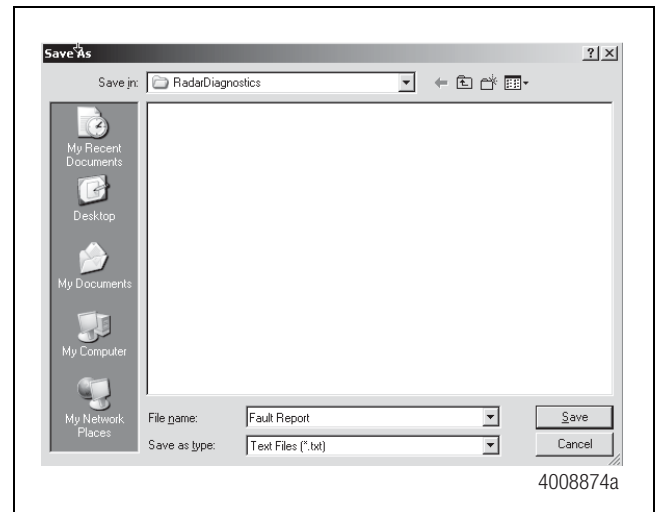
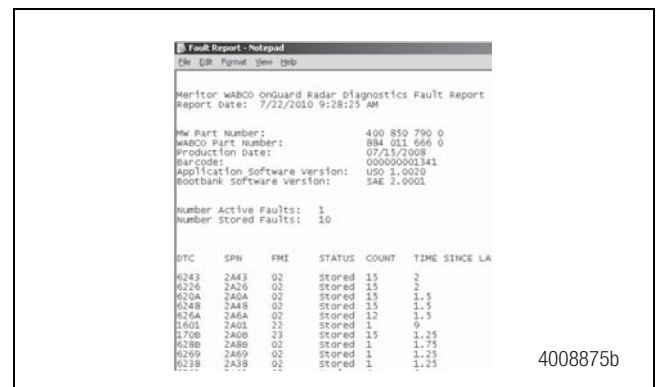

Figure 2.9
Figure 2.10
4. A fault report can also be generated by selecting the “Generate Fault Report” button, while in the “Diagnostic Trouble Codes” screen. A “Save As” screen will then come up asking you to name the file and select where it will be saved. Figure 2.9. The “Fault Report” screen provides additional information that is not included in the “Diagnostic Trouble Codes” screen. Figure 2.10.